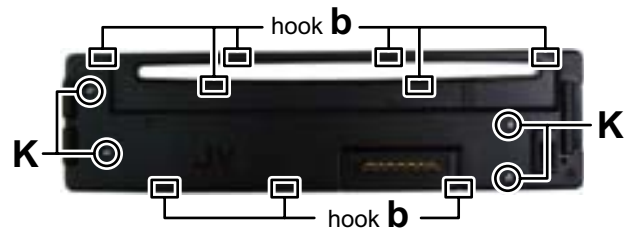

Fig.8
3.1.6 Removing the SWITCH BOARD assembly (See Fig.8)